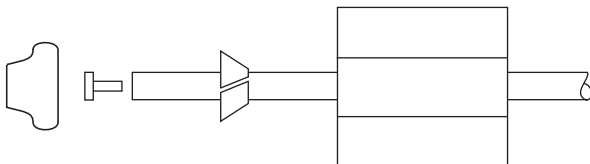

Figure 13
**NOTE:** Once the tubing has been pushed into the nut, it cannot be pulled out. The nut will need to be removed. See Figure 13 for correct assembly.